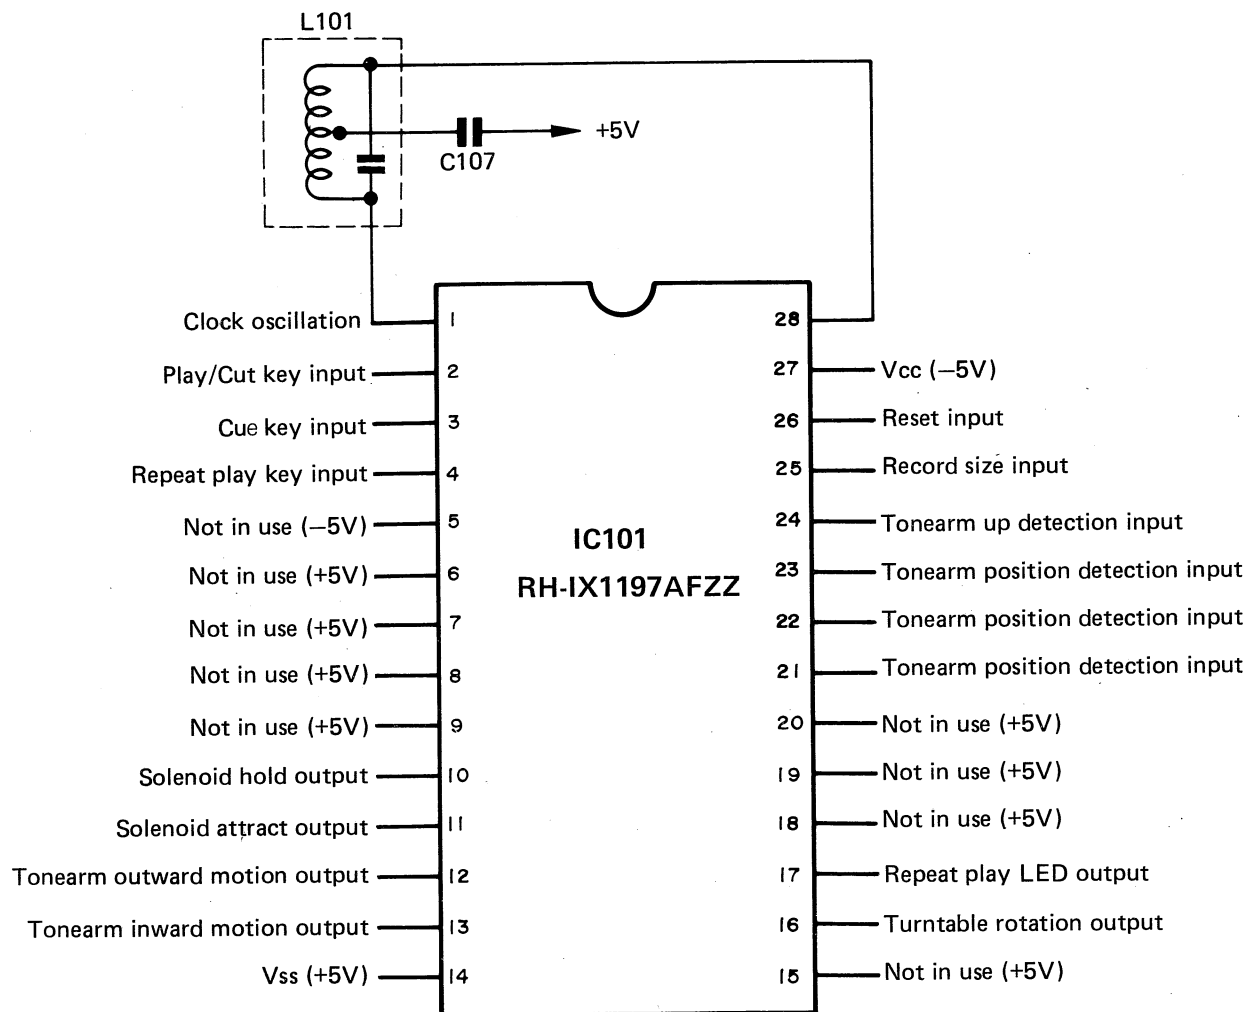

Figure 6 IC101 (RH-IX1197AFZZ)
(G) MICROPROCESSOR (See Figure 6)